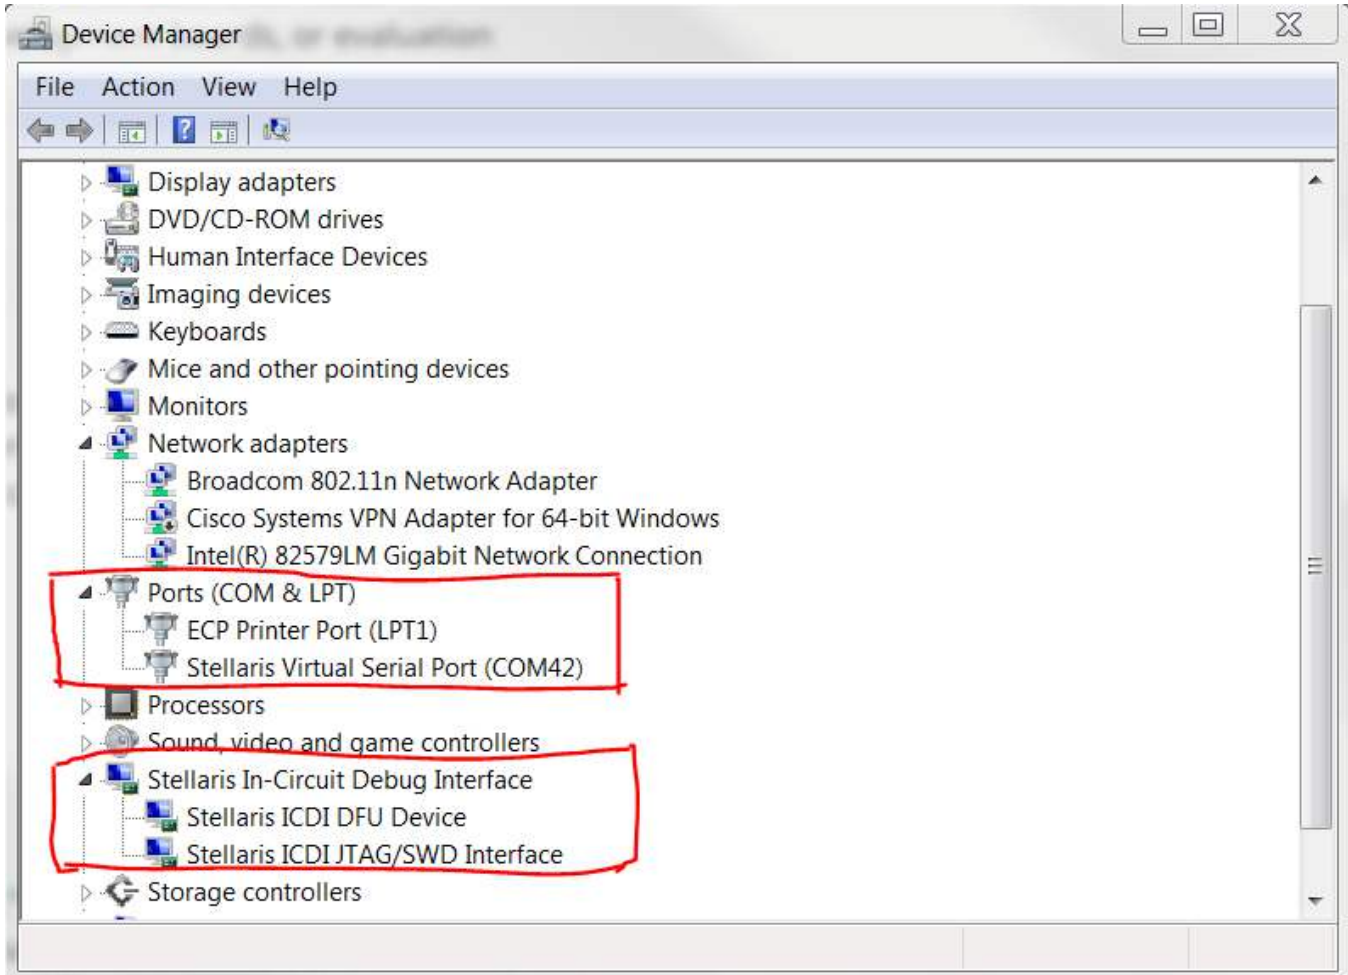

Figure 5. TM4C1294 LaunchPad™ Development Kit Stellaris Virtual Serial Port and ICDI Driver
4. Open the computer's "Device Manager". You must be able to see the "Stellaris Virtual Serial Port" and "Stellaris In-Circuit Debug Interface" as shown in Figure 5.